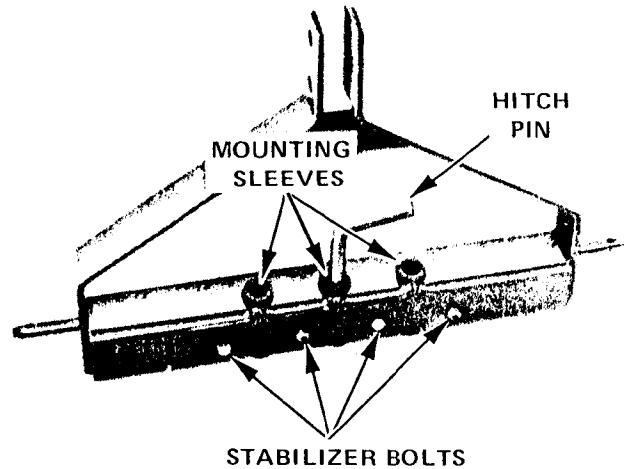

FIGURE 3
The Model F27 Sleeve Adaptor (Figure 3) converts the 3-Point Hitch to accept sleeve-type mounted implements.
1. Four implement stabilizing bolts (Figure 3) are furnished with the sleeve adaptor for use at the four threaded holes, to eliminate the lateral pivot of mounted attachments if desired. A plow should not be stabilized at this point.
2. There are three mounting sleeves (Figure 3) on the sleeve adaptor to permit centering or offsetting implements. When mounting a plow, be careful to select the mounting position which will allow the share to cut cleanly to the edge of the previous furrow or to the inside of the right rear wheel.